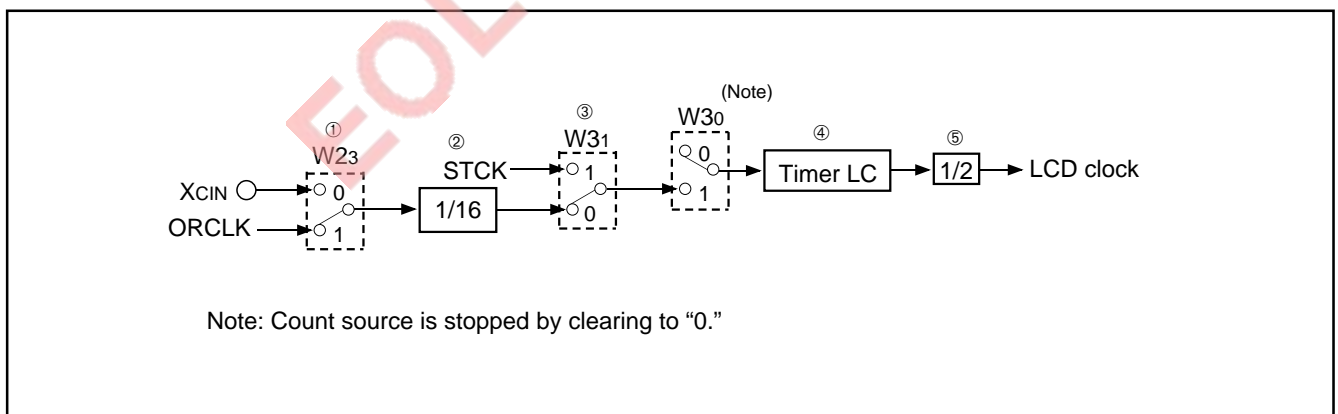

Fig. 24 LCD clock control circuit structure
(2) LCD clock control
The LCD clock is determined by the timer 2 count source selection bit (W2₃), timer LC control bit (W3₀), and timer LC. Accordingly, the frequency (F) of the LCD clock is obtained by the following formula. Numbers (① to ⑤) shown below the formula correspond to numbers in Figure 24, respectively.